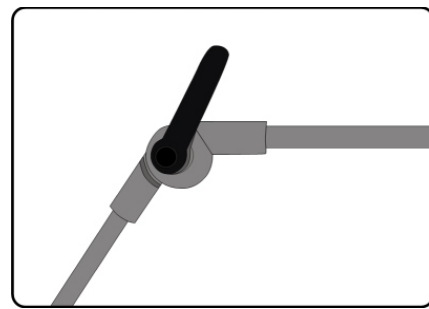

Figure 197: The Support Arm's Latch
5. Use the latches on the Support Arm, shown in Figure 197, to adjust the Support Arm to meet the patient and the healthcare needs